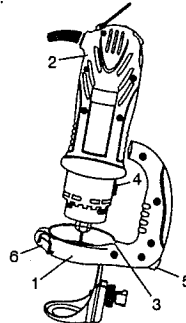

Fig. 10
- Slide precision handle mounting bracket (1) onto the bottom of motor housing (2) until the slot under the handle (3) lines up with the shaft locking button (4) in the motor housing (see Fig. 10).
- The shaft locking button (5) can now be activated by your thumb while holding on to the precision handle
- Lock the precision handle to the motor housing by snapping the quick locking lever (6) firmly against the motor housing.